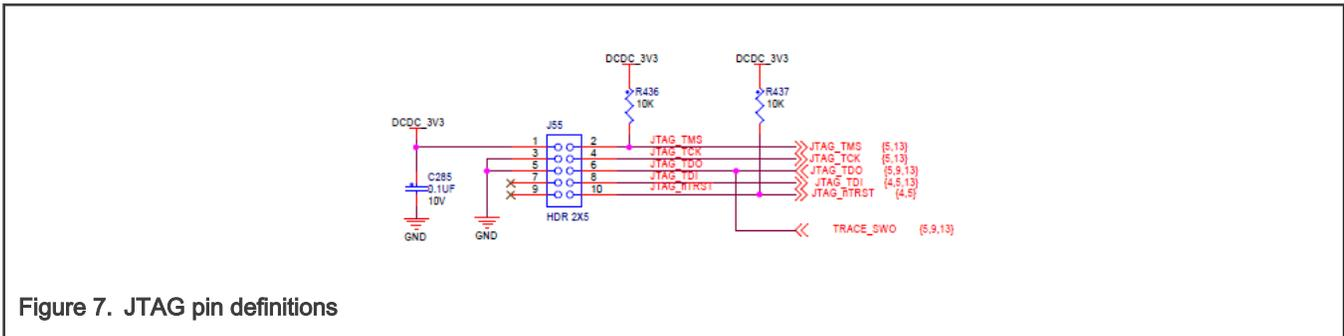

Figure 7. JTAG pin definitions
**J55** is a standard connector for JTAG. **Figure 7** shows the pin definitions. For RT1024, **SWD** is the default debug interface.